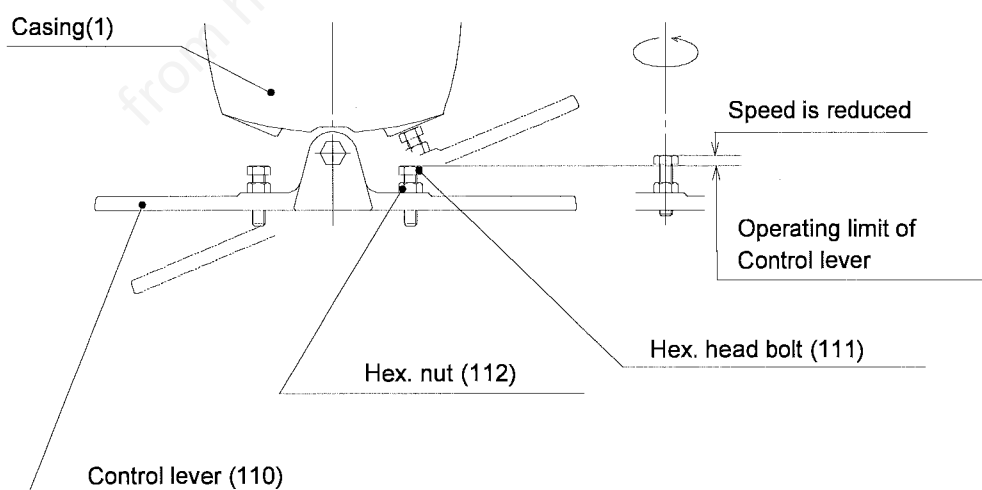

Fig.7
X. Adjustment of Speed and Operating Limit of Control Lever (See Fig. 7)